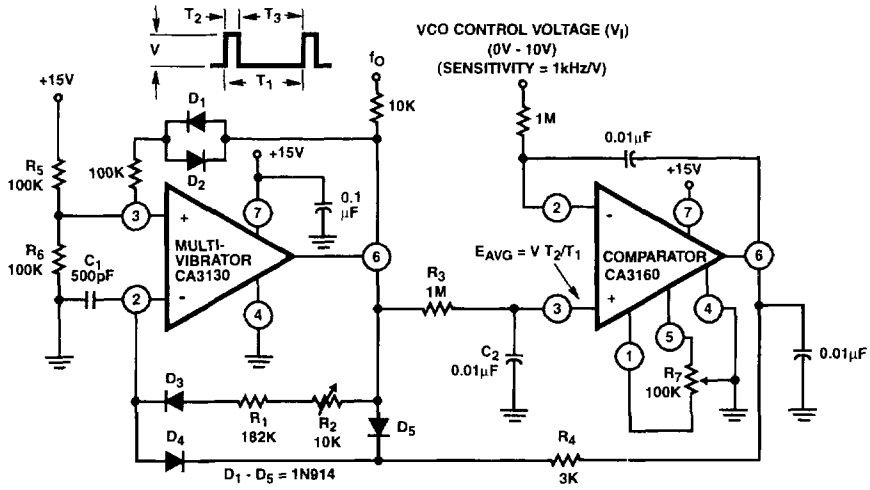

FIGURE 7. VOLTAGE CONTROLLED OSCILLATOR
The circuit diagram of a precision voltage-controlled oscillator is shown in Figure 7. The oscillator operates with a tracking error in the order of 0.02% and a temperature coefficient of 0.01%/°C. A multivibrator (A₁) generates pulses of constant amplitude (V) and width (T₂). Since the output (Terminal 6) of A₁ (a CA3130) can swing within about 10mV of either supply-rail, the output pulse amplitude (V) is essentially equal to V₊. The average output voltage ($E_{AVG} = V T_2/T_1$) is applied to the non-inverting Input terminal of comparator A₂ via an integrating network R₃, C₂. Comparator A₂ operates to establish circuit conditions such that $E_{AVG} = V_1$. This circuit condition is accomplished by feeding an output signal from Terminal 6 of A₂ through R₄, D₄ to the inverting terminal (Terminal 2) of A₁, thereby adjusting the multivibrator interval, T₃.